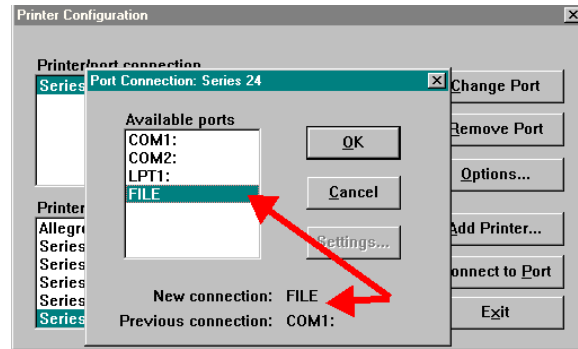

Figure 7
8. Redirect the current printer(s) from the existing port(s) to and direct it to File. (Figure 7)